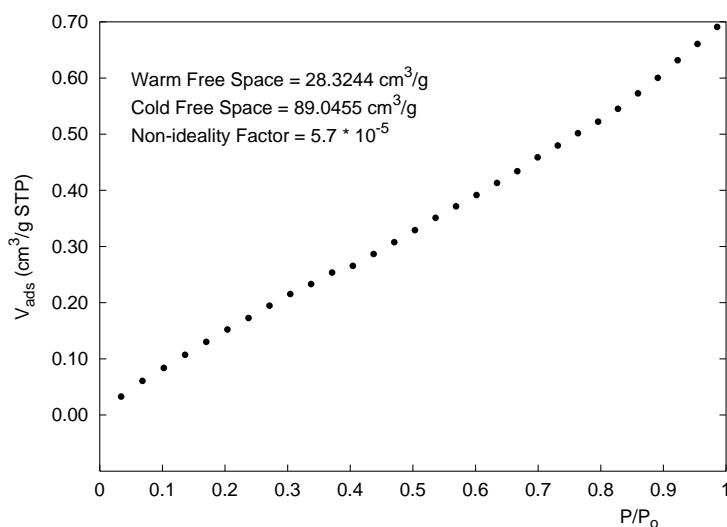
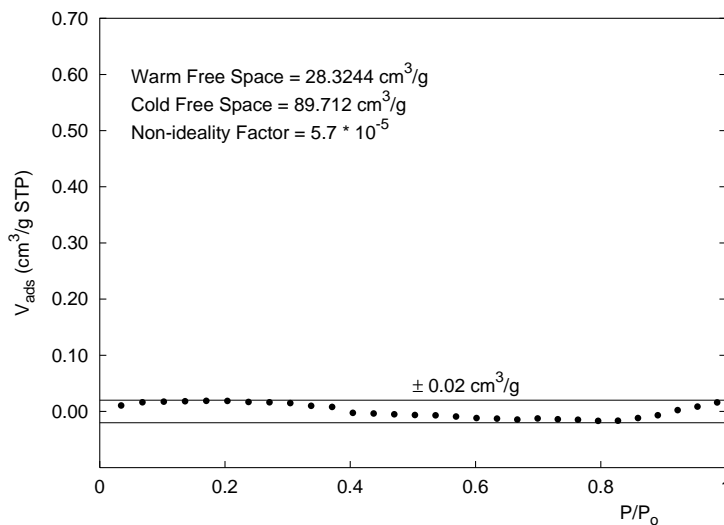

Figure 2. Blank tube analysis with reduced non-ideality factor
Figure 3. Optimized blank tube parameters
4. In the sample file for the blank tube analysis, click the **Adsorptive Properties** tab. In this example for nitrogen, reduce the non-ideality factor approximately 10% from 6.2×10^{-5} to 5.7×10^{-5} . This will linearize the isotherm as shown in Figure 2. This correction is used to compensate for the portion of the empty tube that is not at liquid nitrogen temperature (77 K)..
5. To further minimize the blank error, add the volume at 0.95 P/P₀ (Figure 2) to the cold free space. In this example (Figure 3), the cold free space is increased from the measured value of 89.0455 cm³/g to the optimized value of 89.712 cm³/g. The baseline error is reduced to less than ± 0.02 cm³/g.